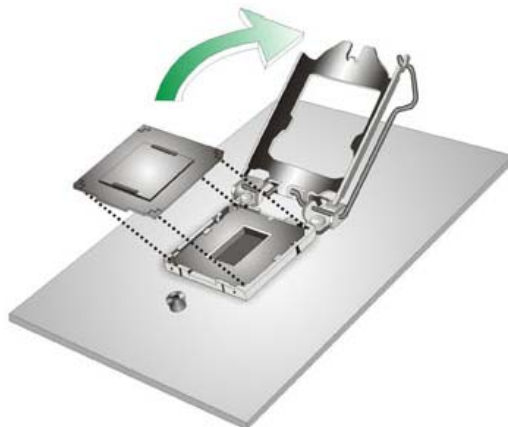

Figure 4-2: Remove Protective Cover
Step 2: Open the socket and remove the protective cover. The black protective cover can be removed by pulling up on the tab labeled “Remove”. See **Figure 4-2**.